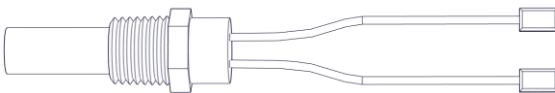

Figure 64 – Temperature switch
- 1) Disconnect the two spade wire connectors from the temperature switch (Figure 64).